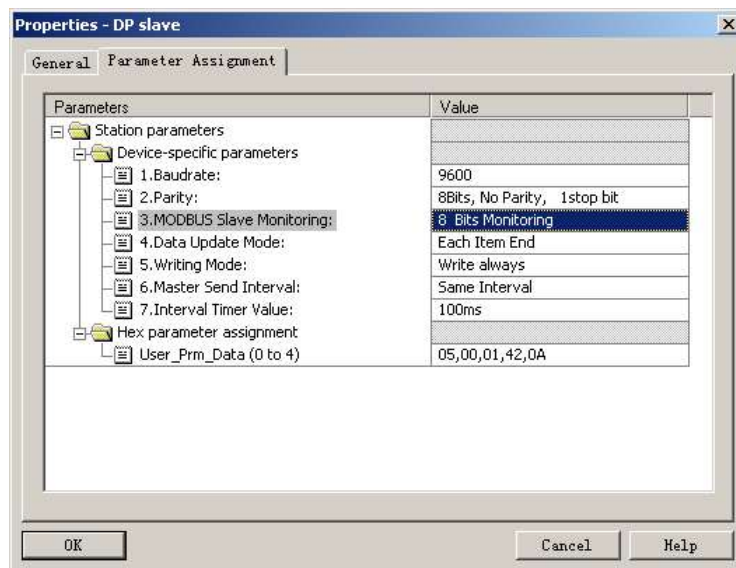

Figure 34 Configure "3.MODBUS Slave Monitoring" device user parameters
a) Configure "3.MODBUS Slave Monitoring" device user parameters, as shown in Figure 34:
As shown in Figure 34, if you want to use the xxx-bit Modbus slave monitoring module, you must configure the corresponding Modbus slave monitoring parameters in the device user parameters. This example configures "8 Bits Monitoring", the corresponding "8Bits MODBUS Slaves Status" module should be used.